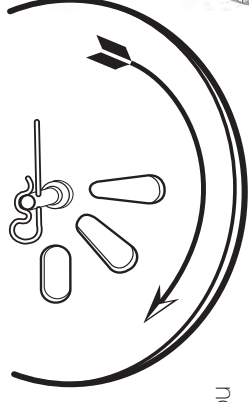

Fig 1
2. Review the Control Lever position - if it is set so that the forward edge is at #30, you are calibrated. If not you need to adjust the control rod at the pivot bracket shown in Fig 1.